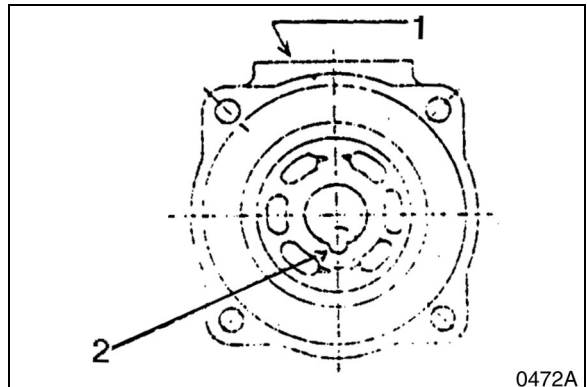

Figure 46
17. Assemble valve plate (131), O-ring and upper valve casing (303). Refer to assembly that shows "R" part (2, Figure 46) of the valve plate turned away from mounting flanges (1) on side of valve plate. Lightly grease O-ring to help keep it in place during assembly.